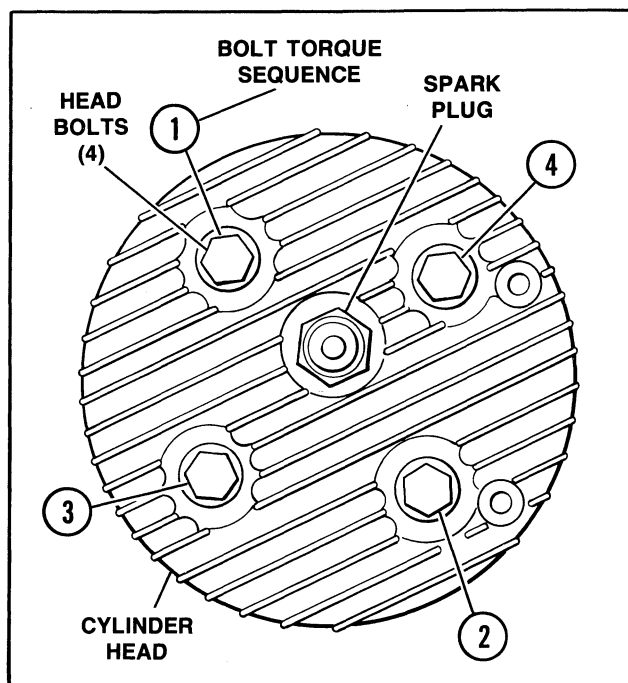

Figure 53 – Cylinder Head Removal
- f. See Figure 53. Remove spark plug, cylinder head bolts and washers and cylinder head.
- g. Install head gasket, cylinder head and bolts. See SPECIFICATIONS at the beginning of this section for cylinder head bolt torque. See Figure 53 for cylinder head bolt torque sequence. Tighten evenly, 5 ft.-lbs. at a time.